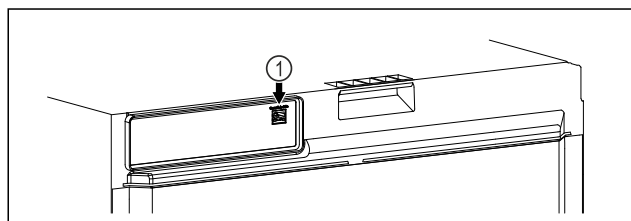

Fig. 105
- ❑ SmartModule Fig. 105 (1) is inserted.